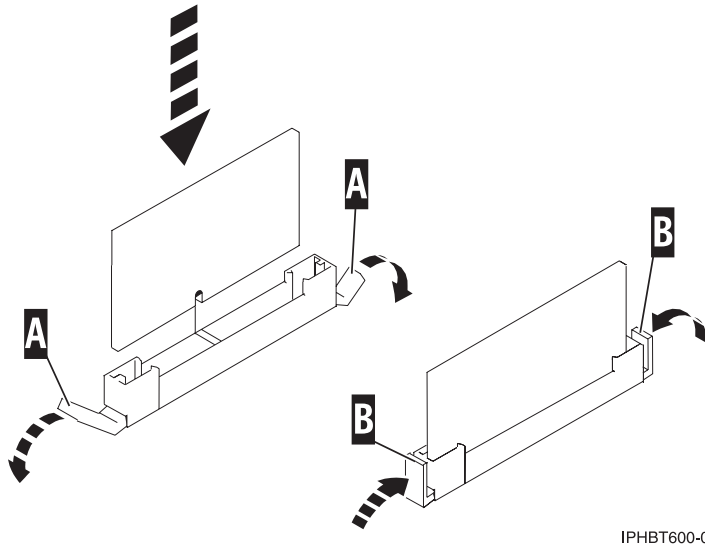

Figure 9. Connector tabs for voltage regulator modules (1.5 V dc or 2.5 V dc)
- a. If you are replacing a voltage regulator module on the system processor assembly, ensure that the connector tabs are pushed out to the unlocked position (A) in Figure 9 on page 20) before you install a new voltage regulator module.
- d. Secure the 1.5 V dc or 2.5 V dc voltage regulator module by pushing the connector tabs (**B**) in Figure 9 in.